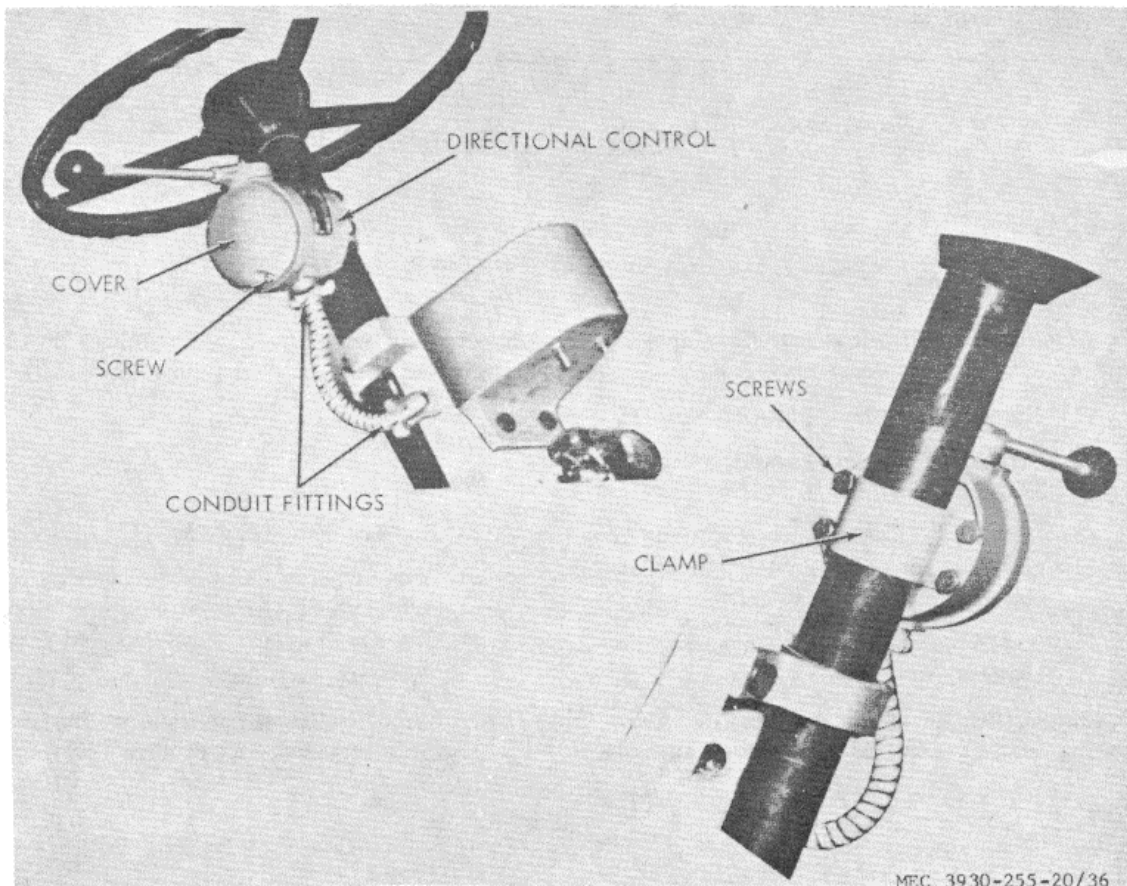

Figure 36 Directional control, right and left views.
- (1) Remove two cover screws and cover (fig. 36). Disconnect and tag leads inside control switch.
- (2) Disconnect conduit at fitting. Draw leads from control switch.
- (3) Remove four clamp screws, clamp, and control switch.